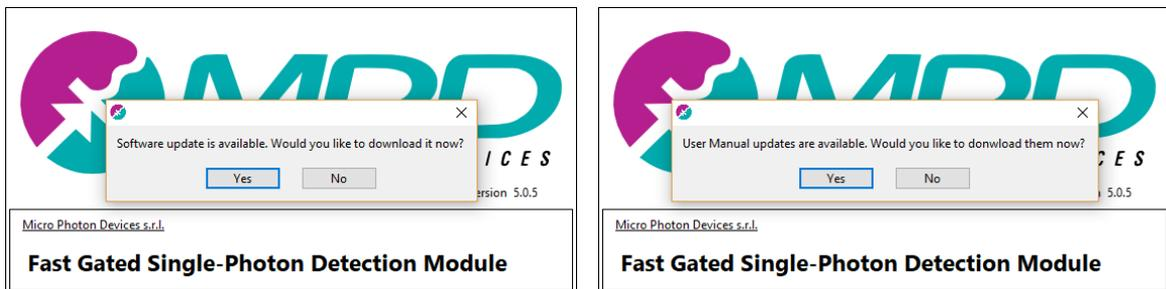
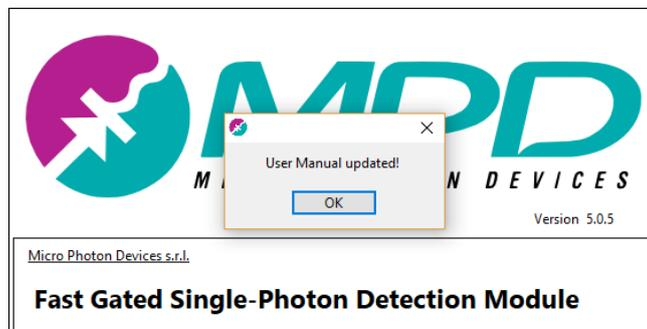

Figure 7. Software Update (left) and User Manual update (right) dialog boxes.
Figure 8. Dialog box informing that the User-Manual has been downloaded.
- In case a new user manual is present, the dialog box shown in Figure 7 on the right will appear and if the user presses the ‘Yes’ button the new user manual is downloaded and copied inside the program. A dialog box signaling the successful install of the new manual will also be shown as illustrated in Figure 8.
- In case a new software is available, the dialog box shown in Figure 7 on the left will appear. If the ‘Yes’ button is pressed, the default web browser will be opened directly on the download page of the MPD website.